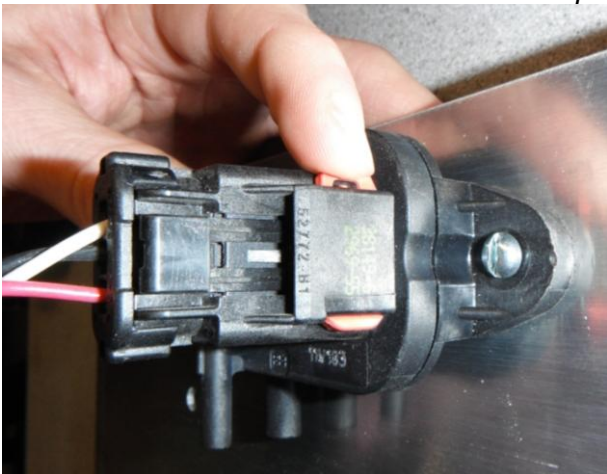
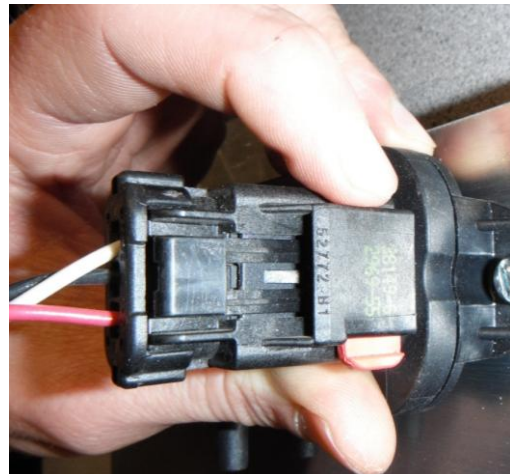

Figure12: DPT Locked Position
Figure13: DPT Unlocked Position
- b. Reach behind the ECU mount plate on the top and locate the red lock mechanism. Push downward to disengage the lock. Figure12 and Figure13 show the locked and unlocked positions.